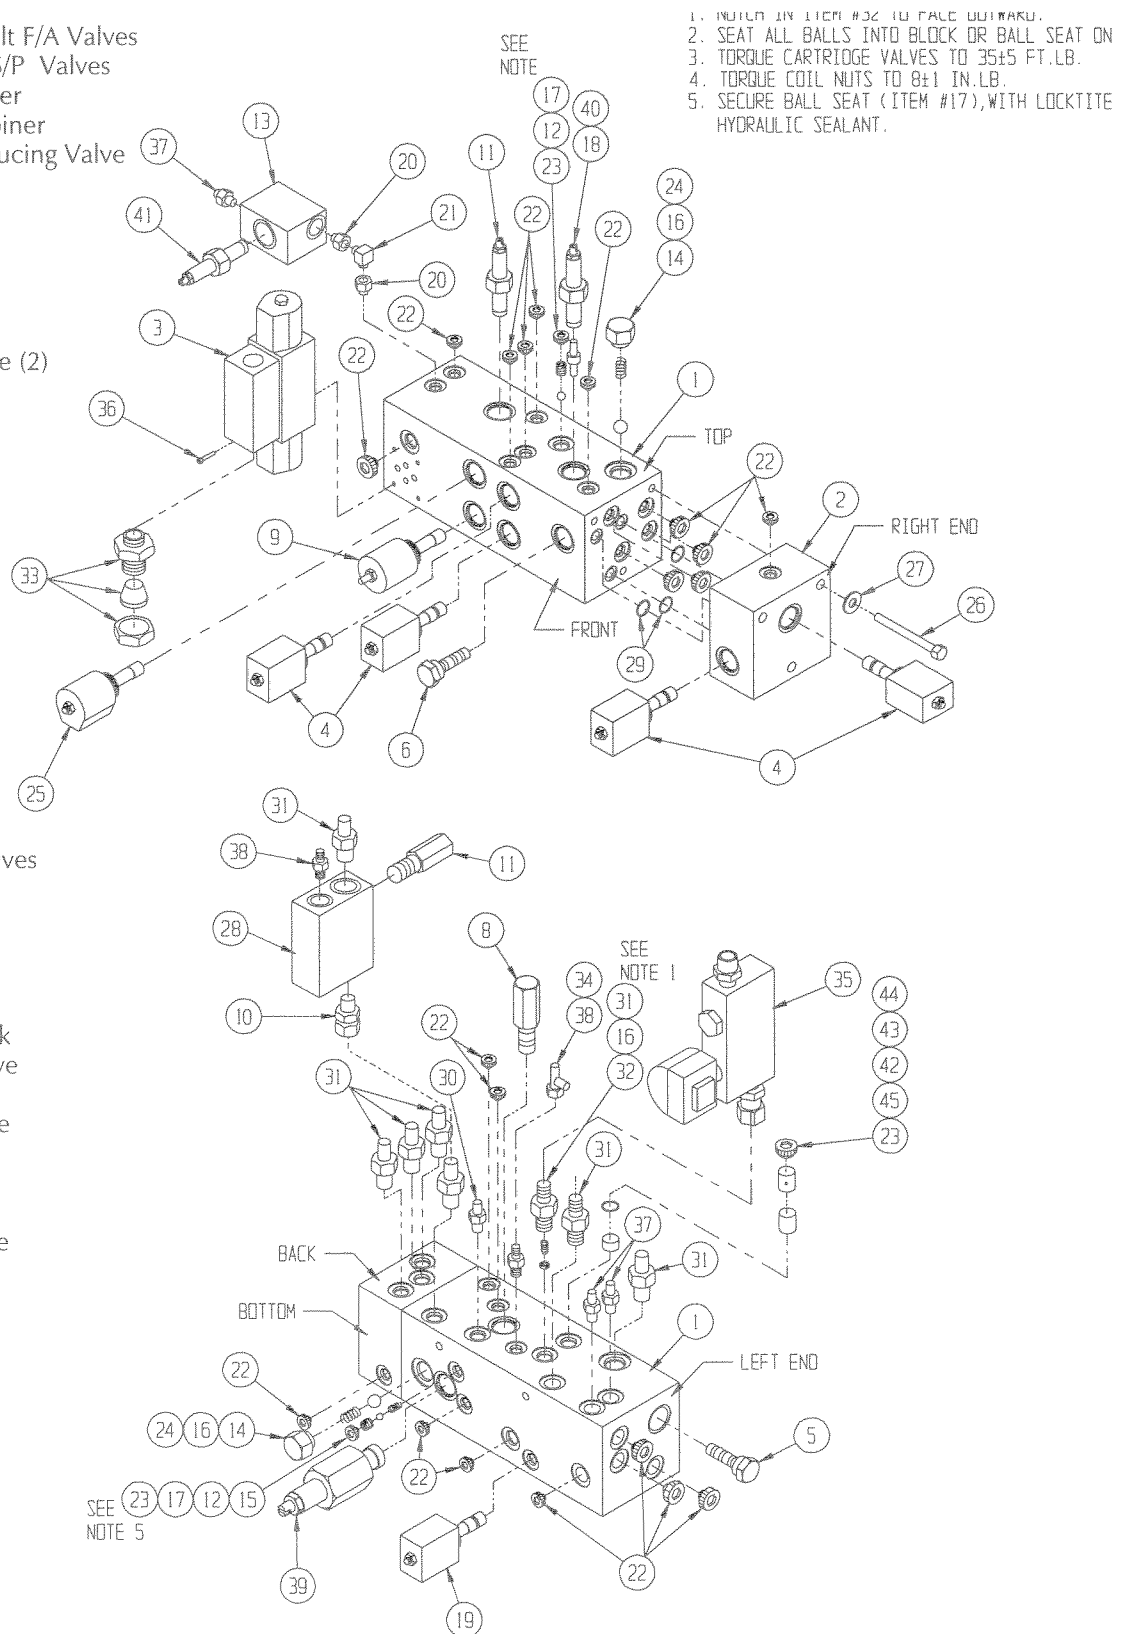

Figure 4-14: Hydraulic Manifold, Exploded View
4.7 Hydraulic Manifold (Figure 4-14)
Note: Mark all components as they are removed so as not to confuse their location during assembly. Refer to Figure 4-14 often to aid in disassembly and assembly.